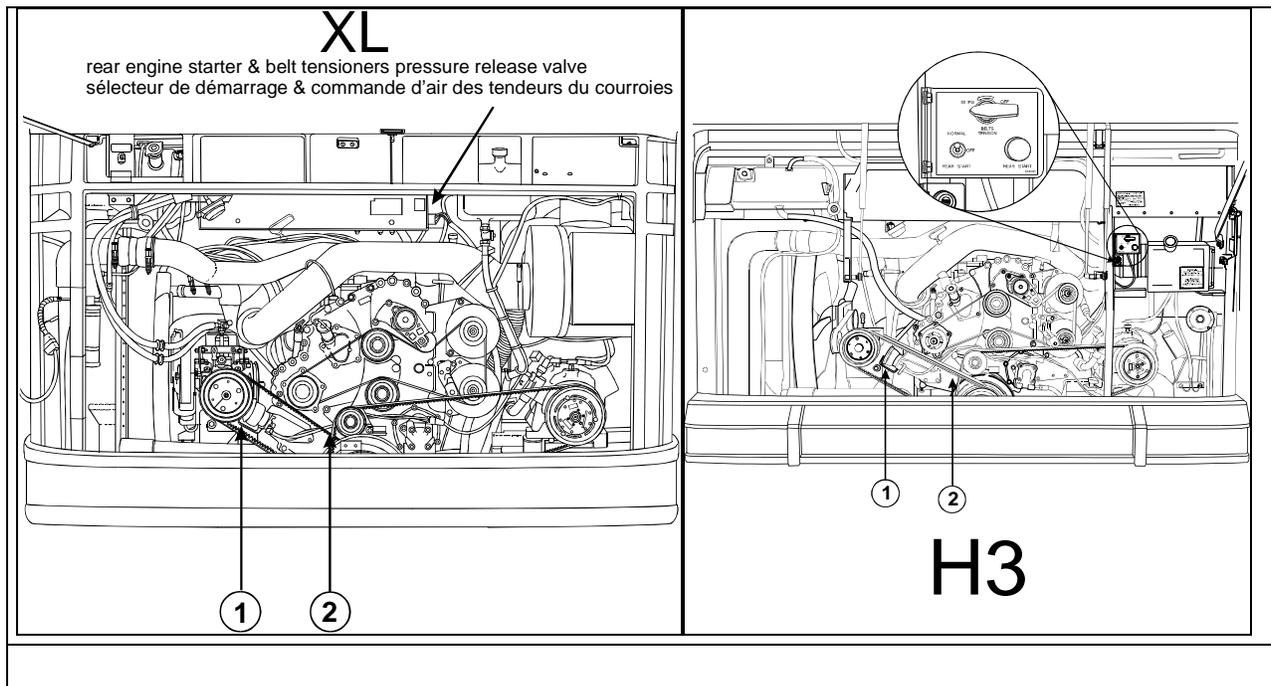

FIGURE 1 : FAN DRIVE ASSEMBLY COMPONENTS : (1) STOP; (2) DRIVING BELTS
2. Set the rear engine starter selector switch to the "OFF" position (figure 1).
5. Remove the air pressure from the belt tensioners (figure 1) and remove the 3 driving belts.
6. Rotate the fan drive assembly counterclockwise in order to have it resting against the stop at its extreme position (figure 1).
3. Remove the air pressure from the belt tensioners (figure 1) and remove the 3 driving belts.